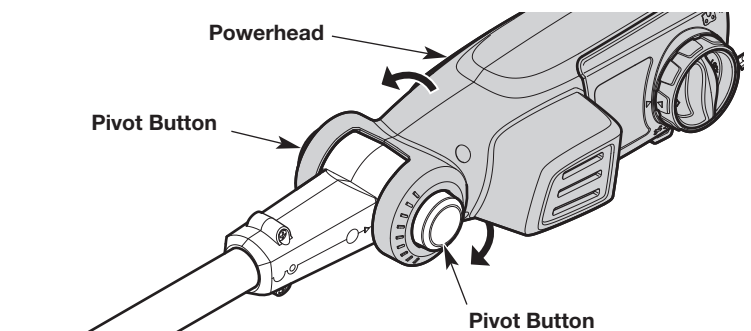

Fig. 4
1. Press and hold both pivot buttons (Fig. 4).
2. Pivot the powerhead until it is at the desired angle (Fig. 4).